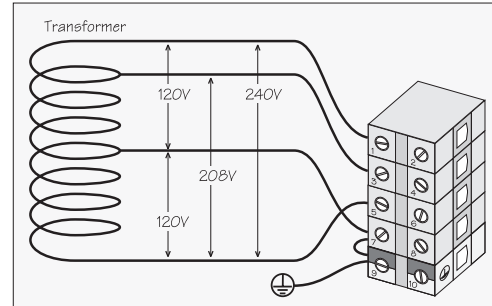
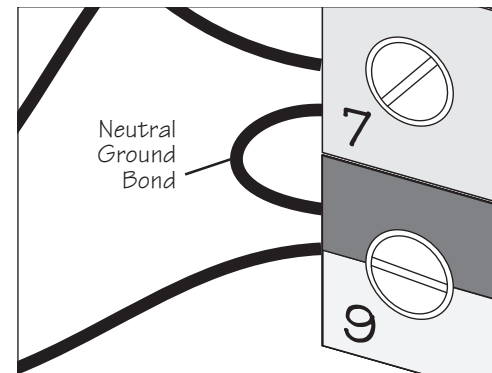
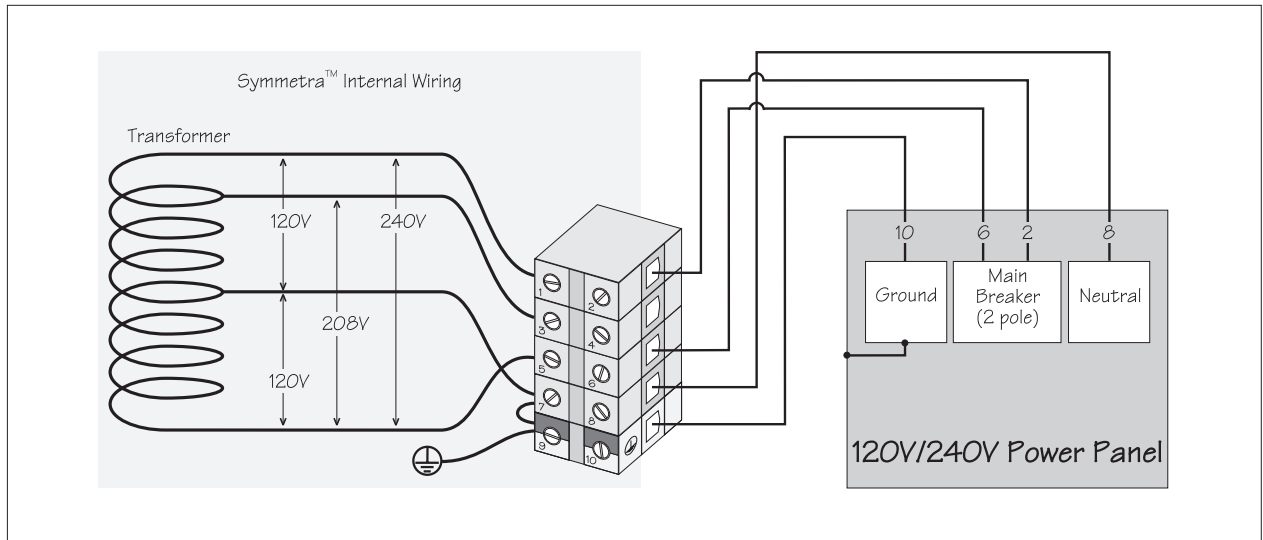
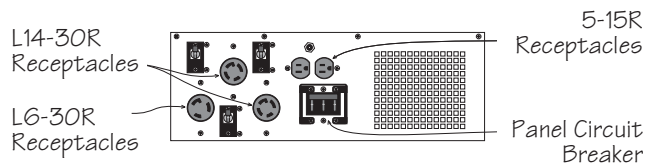

Fig 4-6 Voltages Delivered to the Output Terminal Block
Fig 4-7 Output Wiring Neutral Ground Bond
Fig 4-8 Output Wiring Configuration for 120V/240V Output Voltages
Fig. 4-11 MiniFrame PDU Panel
The Power Array is typically wired to deliver either 120V/240V, or 120V/208V/240V output voltages. The internal wiring to the output terminal block is depicted in figure 4-6. Note the neutral ground bond in figure 4-7. Wiring configurations for installations with a power panel are provided in figures 4-8 and 4-9. If wiring is to be connected directly to the load equipment, refer to table 4-3 for the correct terminal connections.
Symmetra™ requires output voltage overcurrent protection in accordance with the ratings in table 4-2. If an optional PDU is installed on the Power Array, the panel circuit breaker acts as the overcurrent protection for the PDU receptacles and the hardwired connections. See figure 4-11 and 4-12. If a PDU panel is not installed, circuit breakers must be installed in the power panels as shown in figures 4-8 and 4-9.
3. Use the output wiring configuration that corresponds to the output load voltage. See figures 4-8 and 4-9. Connect